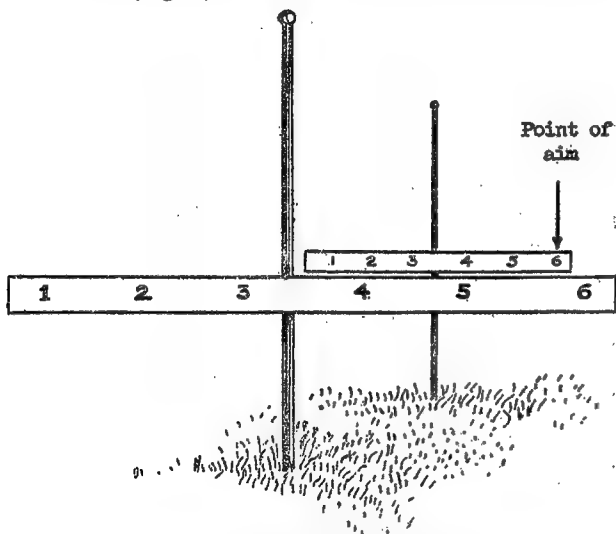

FIG 5—The use of crossheads
- (c) *When using aiming posts.*—On the posts, provided they appear in line. Otherwise, on the number on the far crosshead which appears in line (or most nearly in line) with the corresponding number on the near crosshead (Fig 5).